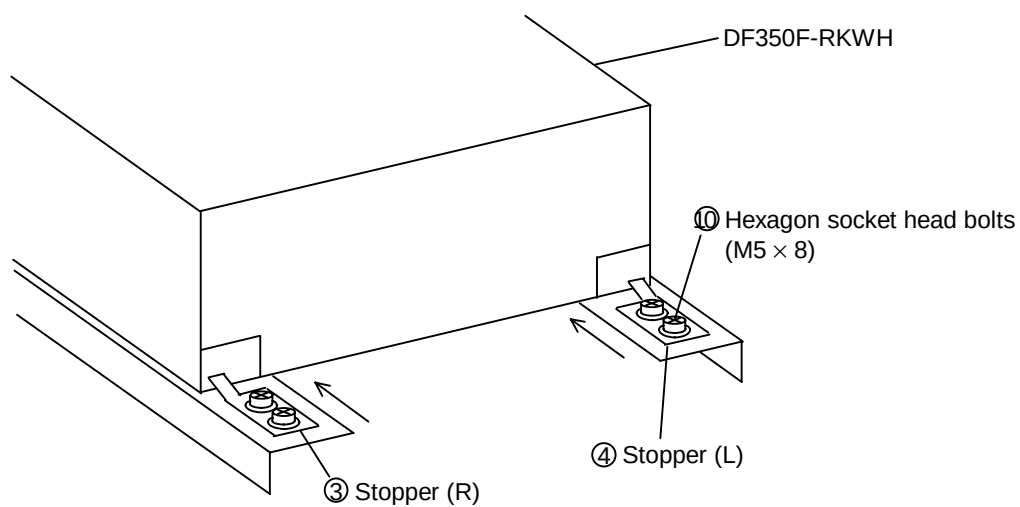

Figure 1.4.9 Securing the Rear Side of the Subsystem
1.4.7 Securing the rear side of the subsystem (See Figure 1.4.9.)